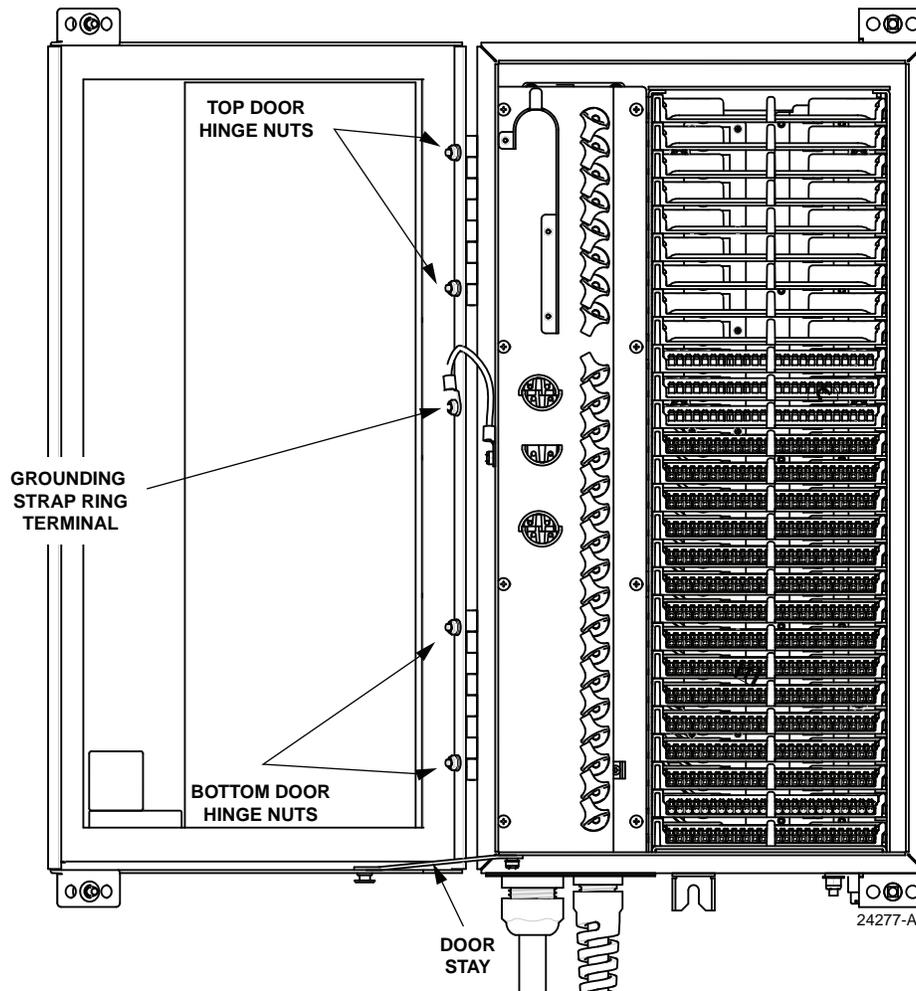

Figure 23. Door Replacement
1. Open the cabinet doors and lock it in the open position as shown in Figure 23.